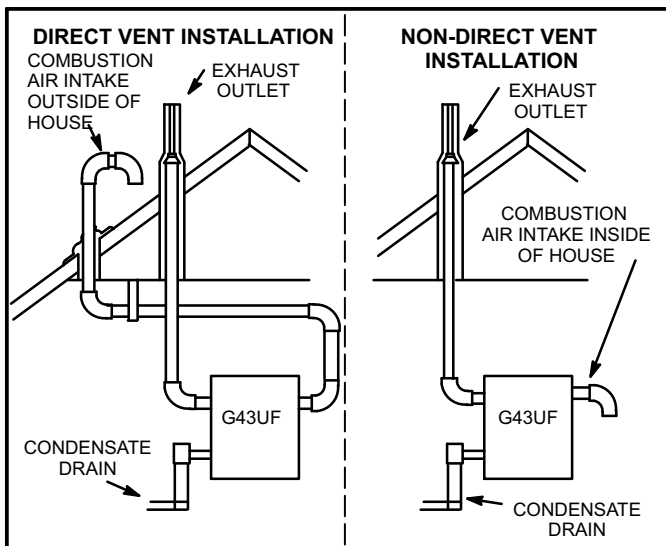

FIGURE 2
**NOTE** - In Direct Vent installations, combustion air is taken from outdoors and flue gases are discharged outdoors. In Non-Direct Vent installations, combustion air is taken from indoors and flue gases are discharged outdoors. See figure 2 for applications involving roof termination.